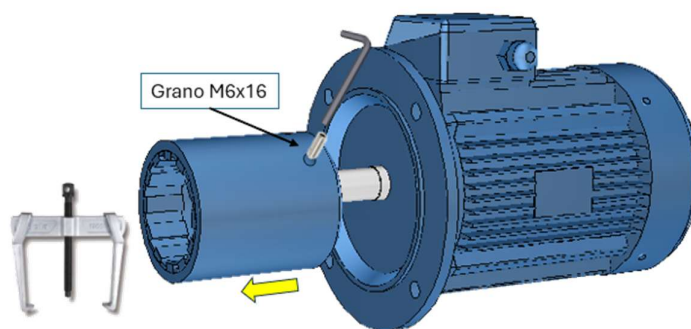

Figure 3
2. If it is necessary to remove the external magnet (Figure 3) from the motor shaft, proceed unscrewing the two grub screws with an Allen key and then use a puller to avoid damage to the motor shaft or the external magnet